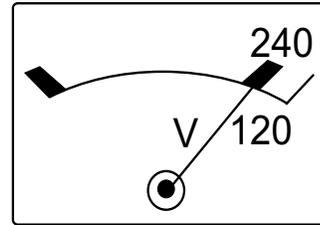

Figure 52. AC Voltmeter (120/240V)
- Verify that the AC voltmeter is registering a voltage reading as indicated by Figure 52.